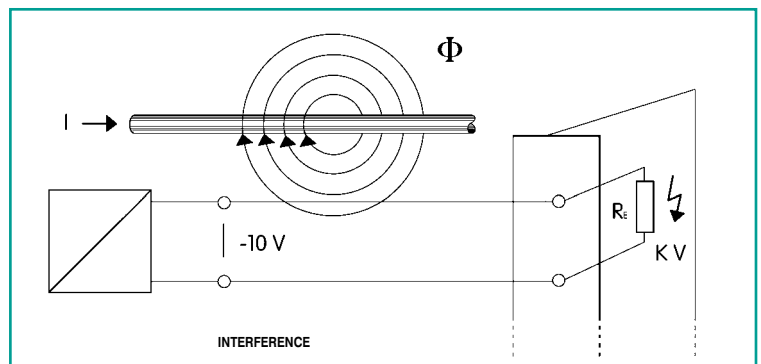

fig.6
- the signal cables are wired in conduits with power cables (Fig. 6)